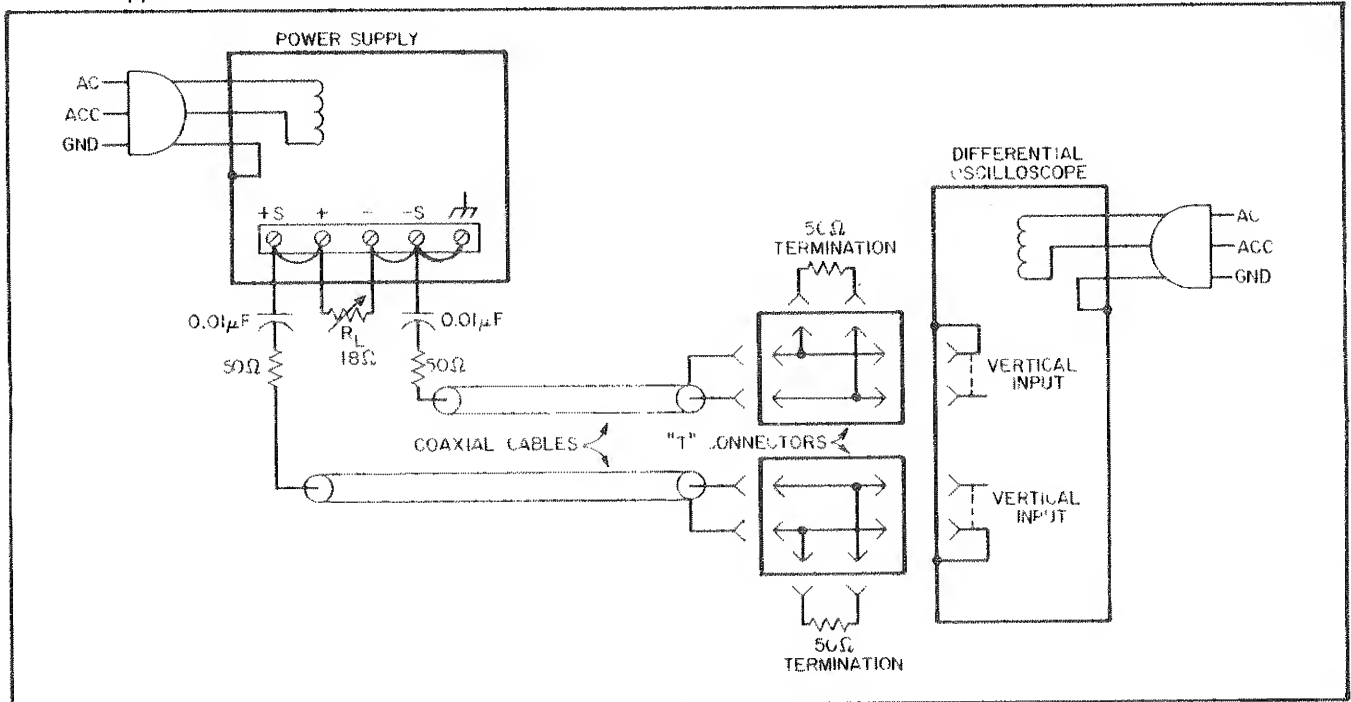

Figure 5-4. Constant-Voltage Noise Spike Measurement Setup
5-28 Figure 5-4 shows the test setup used to measure noise spikes. Two coaxial cables must be used. Impedance-matching resistors must be included to eliminate standing waves and cable ringing, and capacitors must be connected to block dc. The length of the test leads outside the coaxial cable should be kept as short as possible. The blocking capacitor and impedance-matching resistor should be connected directly from the inner conductor of the cable to the power supply sensing terminal. Notice that the shields of the two coaxial cables are not connected to the power supply, because such a connection would provide a ground current path through the coaxial shield and result in an erroneous measurement.
- Connect the test setup shown in Figure 5-4.
5-30 The circuit of Figure 5-4 can also be used for the display of low-frequency ripple. Simply remove the four terminating resistors and the blocking capacitors and substitute a high-gain vertical plug-in for the wide-band plug-in required for spike measurements.